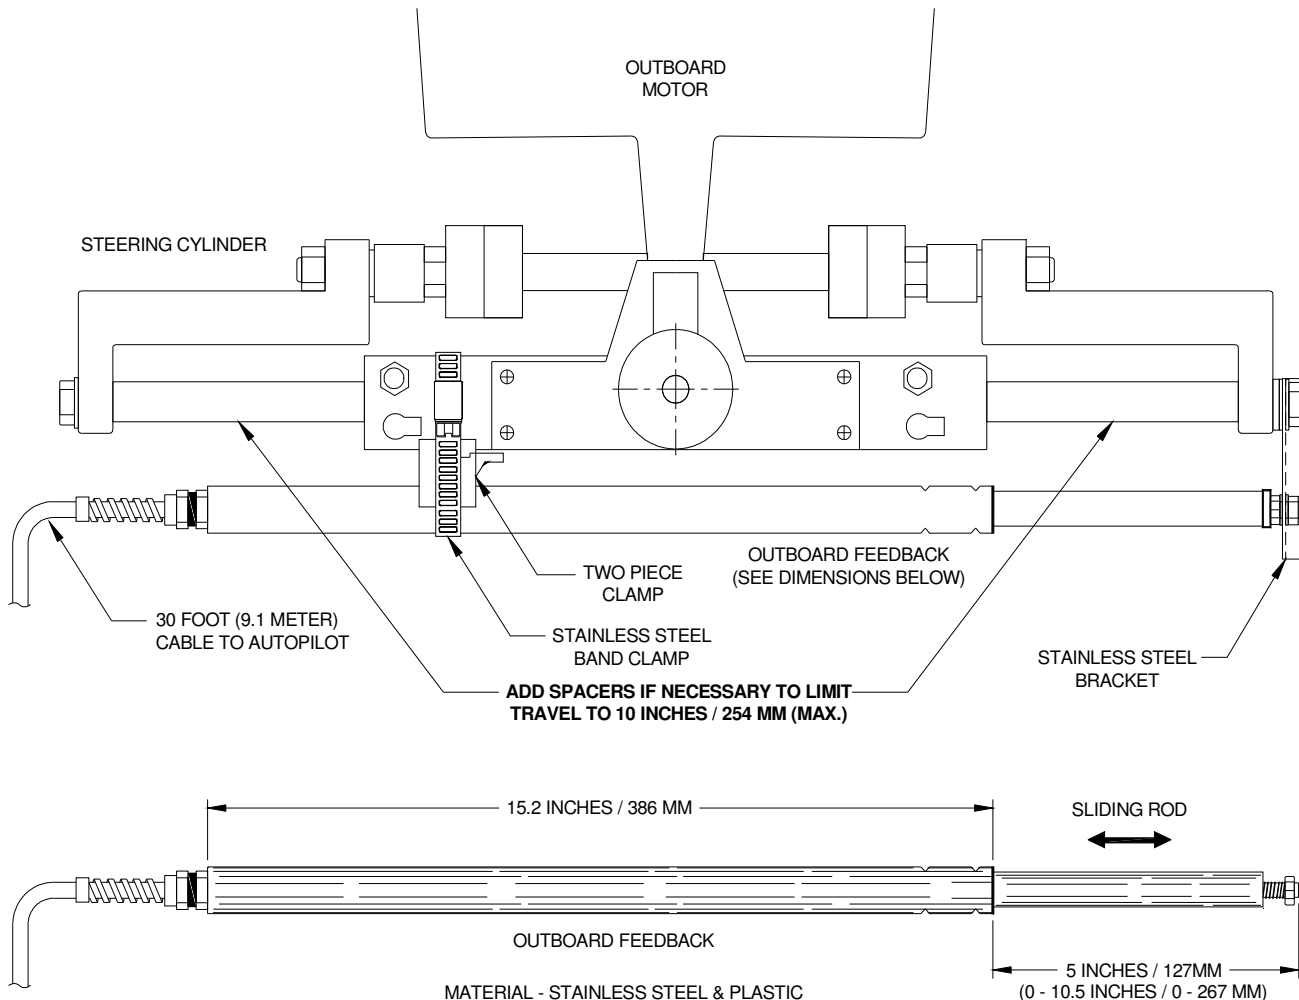

Figure 30 – Typical Arrangement of Linear RFU on an Outboard's Steering Cylinder
- 2) Carefully measure the travel of the outboard motor's steering cylinder. It must not exceed 25.4 cm (10"). If it is more than that, corrosion resistant spacers will need to be fabricated to go over the rod of the hydraulic cylinder to limit its travel (see Figure 30).
- 3) The clamps and band should be positioned as far as possible towards the end of the Linear RFU which has the cable that goes to the autopilot (see Figure 30). Loosely place the stainless steel band clamp around the Linear RFU and the outboard's steering cylinder.